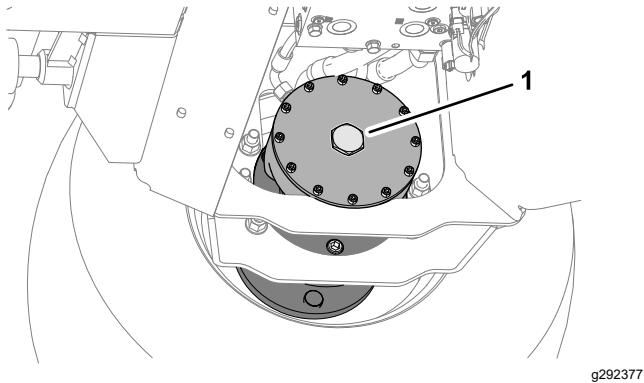

Figure 49
2. Install the hex plug into the motor end plate (Figure 49).
6. Stow the 2 bolts (12 x 40 mm) and 2 washers (12 mm) stored in the platform support rails (Figure 49).